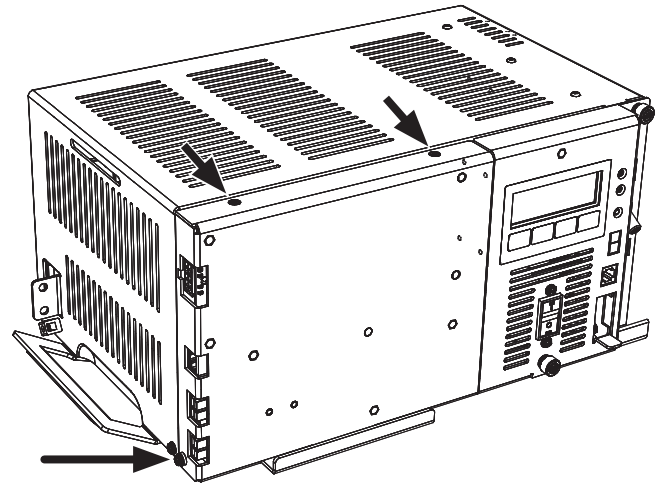

Fig. 2-23, Front Panel Fastener Locations
1. Remove the three fasteners securing the front panel (see Fig. 2-23).